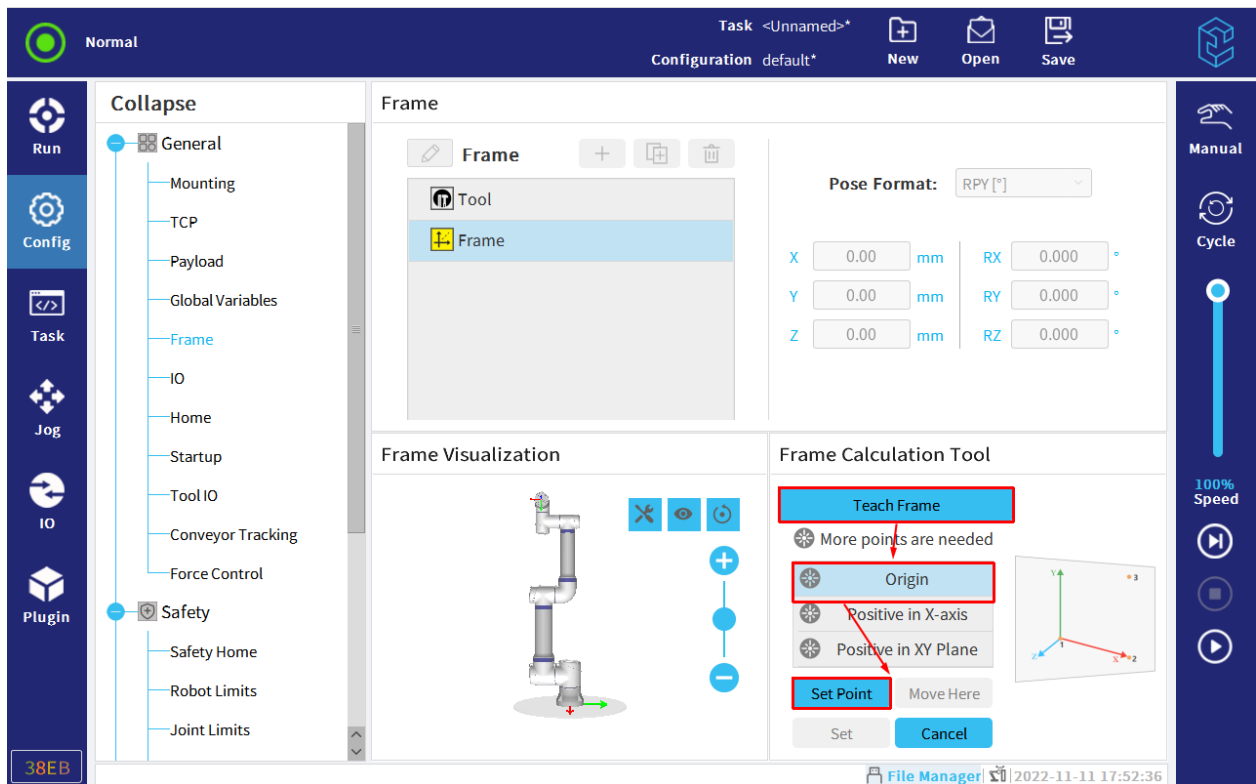

Figure 11-8 Set point
2. Click "Teach Frame > Origin > Set Point", as shown in Figure 11-8.